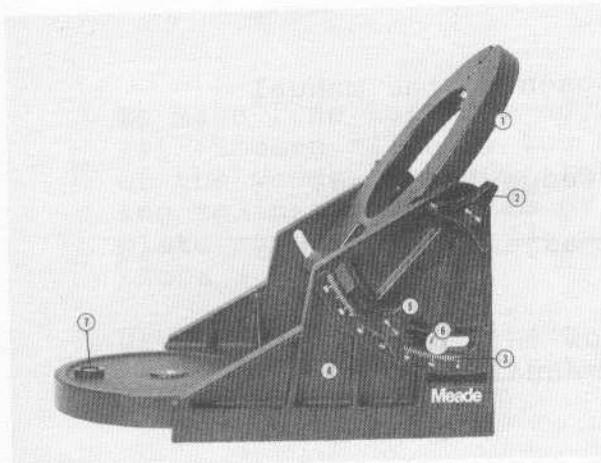
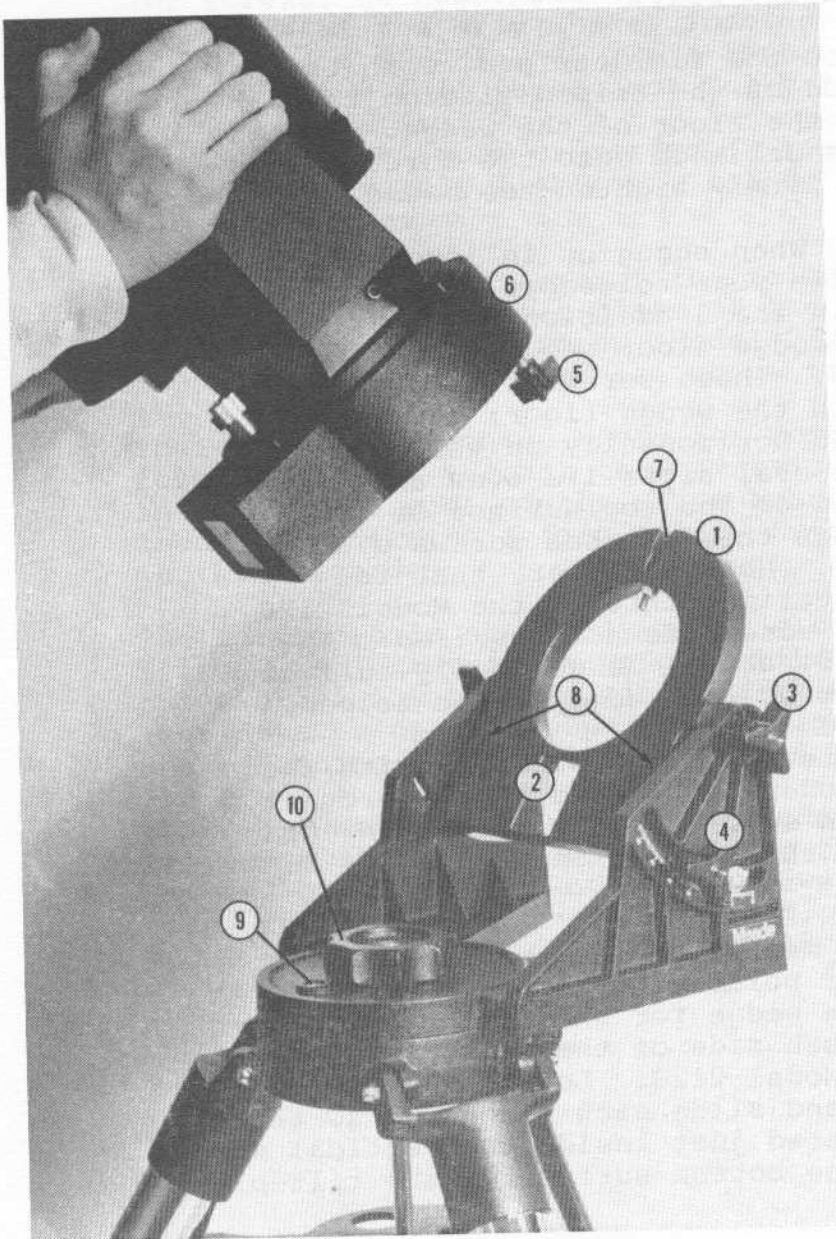

Fig. 7A: Equatorial Wedge for 2080.
Fig. 8: Placing the Telescope on the Wedge.
Except for the tilt plate (Fig. 8) appropriate to each model, the Equatorial Wedges for the Models 2080 and 2120 are otherwise identical.
1. The wedge consists of two basic parts, the wedge body and the tilt-plate, as shown in Figs. 7A and 7B. Attach the tilt-plate to the wedge body by means of the hex-screws (Model 2120) or knobs (Model 2080) provided. Two screws (or knobs), with washers, should be used on each side of the wedge body, so that a total of 4 screws (or knobs) attach the tilt plate to the wedge body.
3. Model 2120 owners: When engaging in long-exposure astrophotography with your telescope, it is advisable to thread-in the 3 additional socket screws through the wedge floor and into the top of the field tripod. These screws fit through the oval-shaped slots in the wedge floor; the wedge must first be turned horizontally on the field tripod, so that the oval slots lie over any 3 of the 6 threaded holes on the top surface of the tripod head. Tighten the 3 socket screws with the hex wrench provided. Note, however, that for normal visual observations through the Model 2120, use of these socket screws is not required: the manual knob (Step (2) above) is generally sufficient for rigid attachment of the wedge to the tripod.
With the Model 2080 three knobs are supplied with the telescope for mounting the telescope's drive base to the tilt-plate of the wedge. (With the Model 2120 three socket screws are provided for this purpose.) Thread one of these knobs (or screws, as appropriate) partially into the hole on the underside of the drive base, located at the curved-end of the drive base. See Fig. 8. This knob or screw should be threaded in about 3 full turns, not fully threaded into the hole.
- (1) Using the bubble level located on the floor of the wedge, adjust the tripod legs so that the telescope/wedge/tripod system reads "level."
- (2) After grasping the telescope firmly, loosen the tilt plate knobs (5), Fig. 7A, so that the telescope may be moved in latitude angle. Set the tilt-plate angle so that the latitude scale (3), correctly reads your latitude. Firmly re-tighten the knobs (5). (The fine latitude adjustment (6) may be moved along the wedge slot and out of the way for now.)
- (4) Loosen the manual knob (10), Fig. 8 half-a-turn, and rotate the telescope/wedge combination horizontally until the telescope itself, oriented as in Step (3), is pointing due North. Gun-sighting along the telescope tube on Polaris, the North Star, will be helpful in this regard. Then re-tighten the manual knob (10). The telescope is now approximately aligned with the Pole, and for casual observations this alignment procedure is adequate.
- (5) For more precise polar alignment during extended use of the telescope at one observing session, now insert the 25mm eyepiece into the telescope, and keep the optical tube oriented as shown in Fig. 9. By a combination of the 2 wedge motions described above (Step (2), latitude angle and Step (4) azimuth, or horizontal, motion), center Polaris in the field of the telescope. Use of the latitude fine adjustment (see "The Equatorial Wedge," above) may be helpful in this operation. Be sure to re-tighten the knobs (5), Fig. 7A, and the manual knob (10), Fig. 8, upon conclusion of the alignment.
Model 2120: The polar alignment procedure for the Model 2120 is identical to that of the Model 2080. If the 3 socket screws are used to provide extra rigidity in attaching the wedge to the tripod (see "The Equatorial Wedge"), it will be necessary to loosen these screws, as well as the manual knob (10), Fig. 8, to rotate the telescope/wedge combination horizontally, i.e. in azimuth. With these socket screws and the manual knob slightly loosened, azimuth adjustment plus-or-minus about 5° is possible. Therefore, the North-pointing procedure (Step (4) above) must first be roughly accomplished by turning the entire telescope/wedge/tripod combination. The final North-pointing operation may then be performed by rotating the telescope/wedge combination, only, on the tripod.